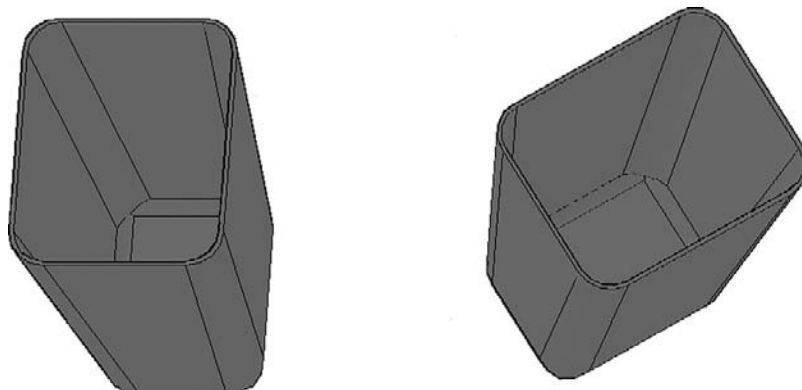

FIGURE 25.21
Step 4. Shell the wastebasket to a 0.35" thickness, as seen in Figure 25.21.